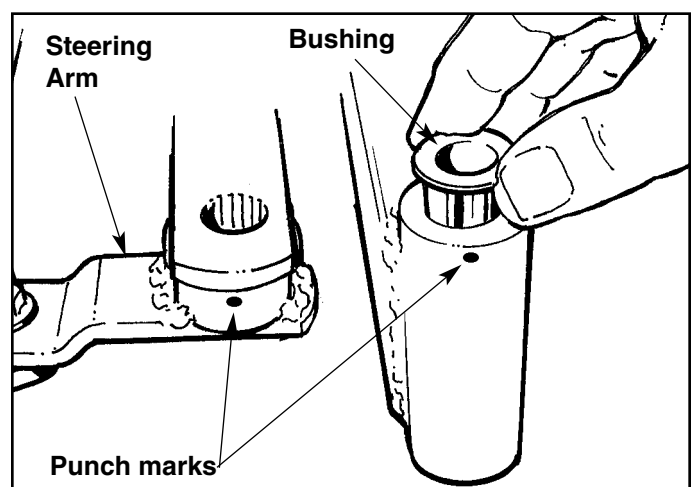

**Figure A-9. Inspect Rod End**
6. Inspect the rod end for free movement/rotation of the rod end bearing, and replace the rod end if necessary (Figure A-9).